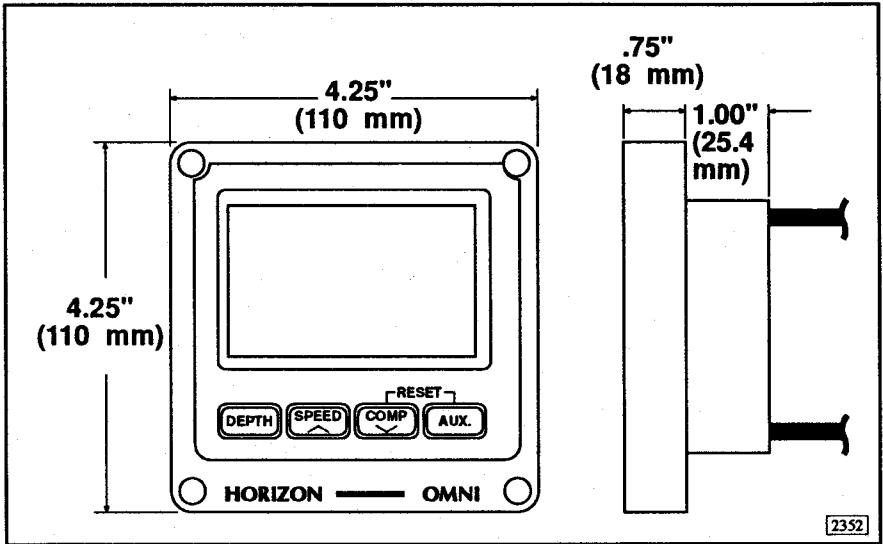

Figure 3. Mounting Dimensions
The RP50 can be easily installed in different types of instrument panels. To install, refer to Figures 3 and 4 and perform the following steps:
- The space behind the instrument panel must have a depth of at least 1 1/2 inches for mounting and access to wires. See Figure 3 for mounting dimensions of the instrument.